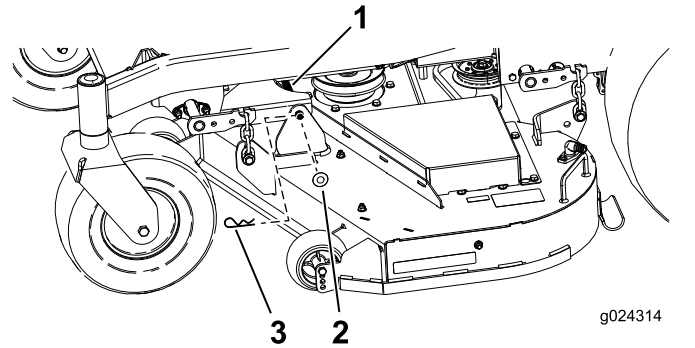

Figure 74
1. Remove the hairpin cotter and washer securing the link pin to the frame and deck, and remove the link bar (Figure 74).
9. Secure the link pin with the hairpin cotters and washers removed previously (Figure 74).